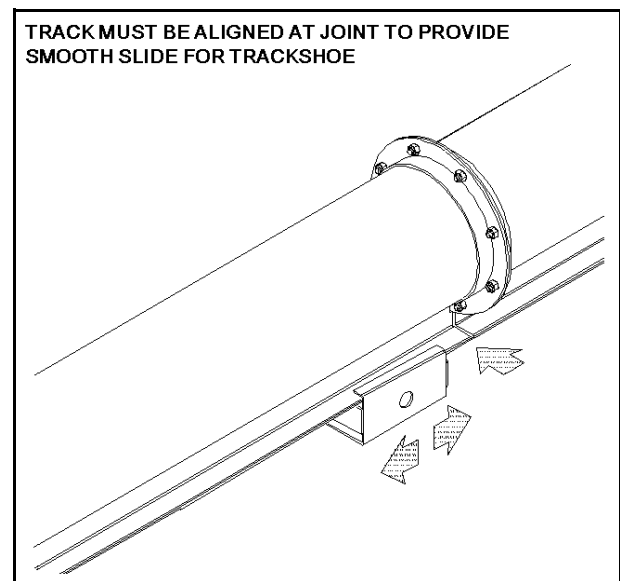

**Figure 3.2**
2. Attach the angle track stop to upper end of track as shown in Figure 3.2 and 3.3 using four 7/16" x 1-1/4" bolts, locknuts, and flat washers. Make certain the flat iron washers are on top of track.